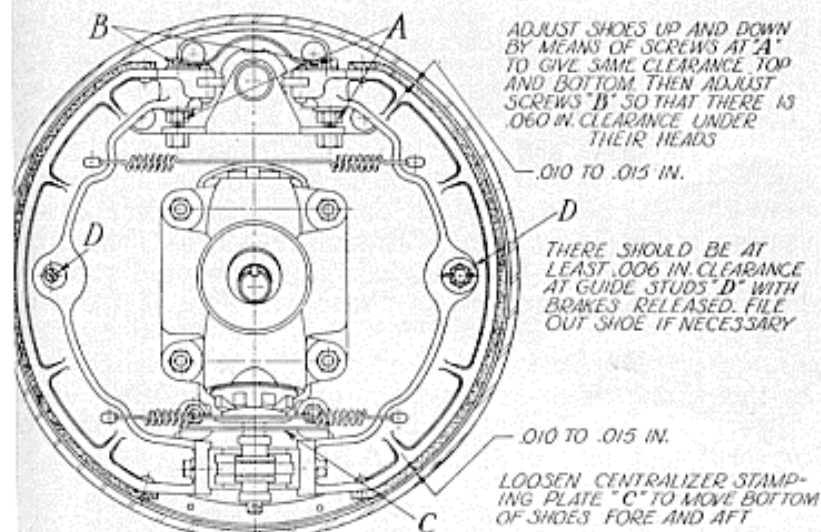

Fig. 4—Front brake assembly showing the two centering adjustments and clearances
6. Whenever front shoe assemblies are removed or when ordinary adjustment fails to give satisfactory results re-center the front shoe assemblies. This can be done through drum ports but preferably by using a cutaway drum or ring gage mounted on spindle. Specifications that should be followed when re-centering are shown in Fig. 4.